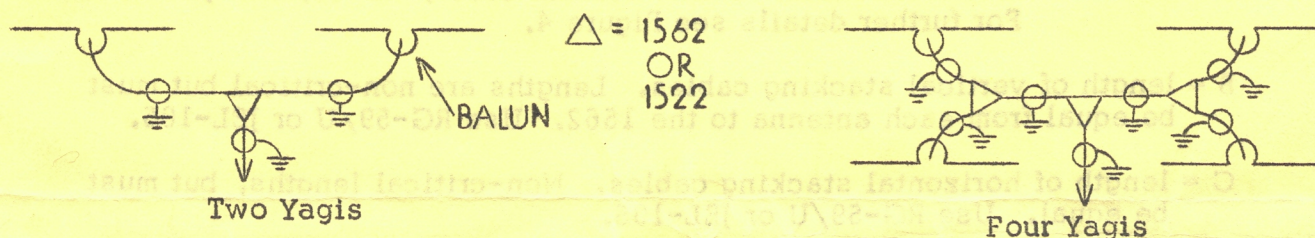

Figure 1 - Schematic Drawings of Yagi Array Stacking
The recommended method as applied to the common two (2), four (4) and eight (8) yagi stacked arrays involves combining each pair of antennas through equal lengths of 75 ohm coax to a 1562, thus (Figure 1).